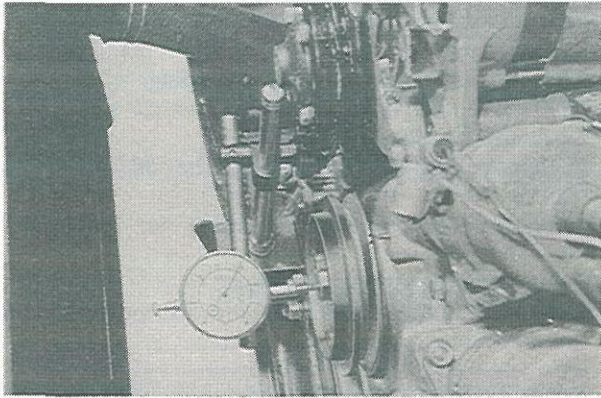

Fig. 1-7 Checking of eccentric shaft end play
12. Apply a dial indicator onto the eccentric shaft pulley as shown in Fig. 1-7. Move the pulley fore and aft, and take the reading of the indicator. The end play should be $0.04 \sim 0.07 \text{ mm}$ ($0.0016 \sim 0.0028 \text{ in.}$). If it is not within the limits, adjust it by means of grinding the spacer using the emery paper on the surface plate, or by replacing the spacer.